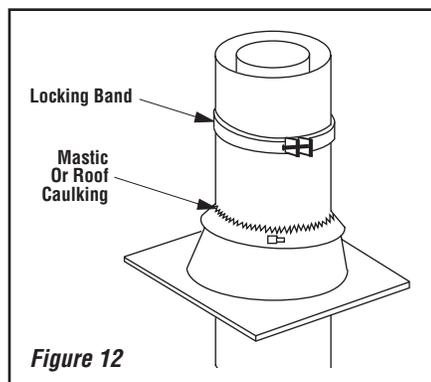

Figure 12
Seal storm collar to outer chimney with roof caulking or mastic around entire circumference of pipe. Also add extra roof caulking to the tab/slot area to seal completely against water penetration (**Figure 12**). Check all joints very carefully to ensure no water intrusion can take place.
Step 9. FTF locking bands, Model FLB, may be required if the chimney extends too high above the roof flashing. As a general rule, if the chimney extends more than 6' above the roof flashing, the use of locking bands is advisable to strengthen the chimney assembly. Align the locking band at the chimney joint. Locking bands wrap around pipe joints equally covering the joints of both pipe sections. Use the nut provided and TIGHTEN snugly. Do not overtighten as this might damage the chimney section (refer to **Figure 12**).